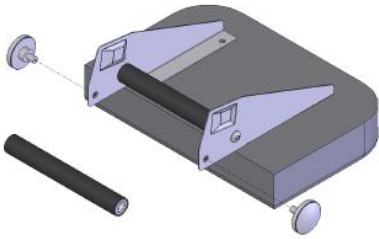

Figure 3
With the seat resting on a flat surface, grasp the rear bumper on the back of the seat and remove the (2) two knobs from the brackets. This will allow the rear bumper to be removed from the seat assembly (Fig 3.).